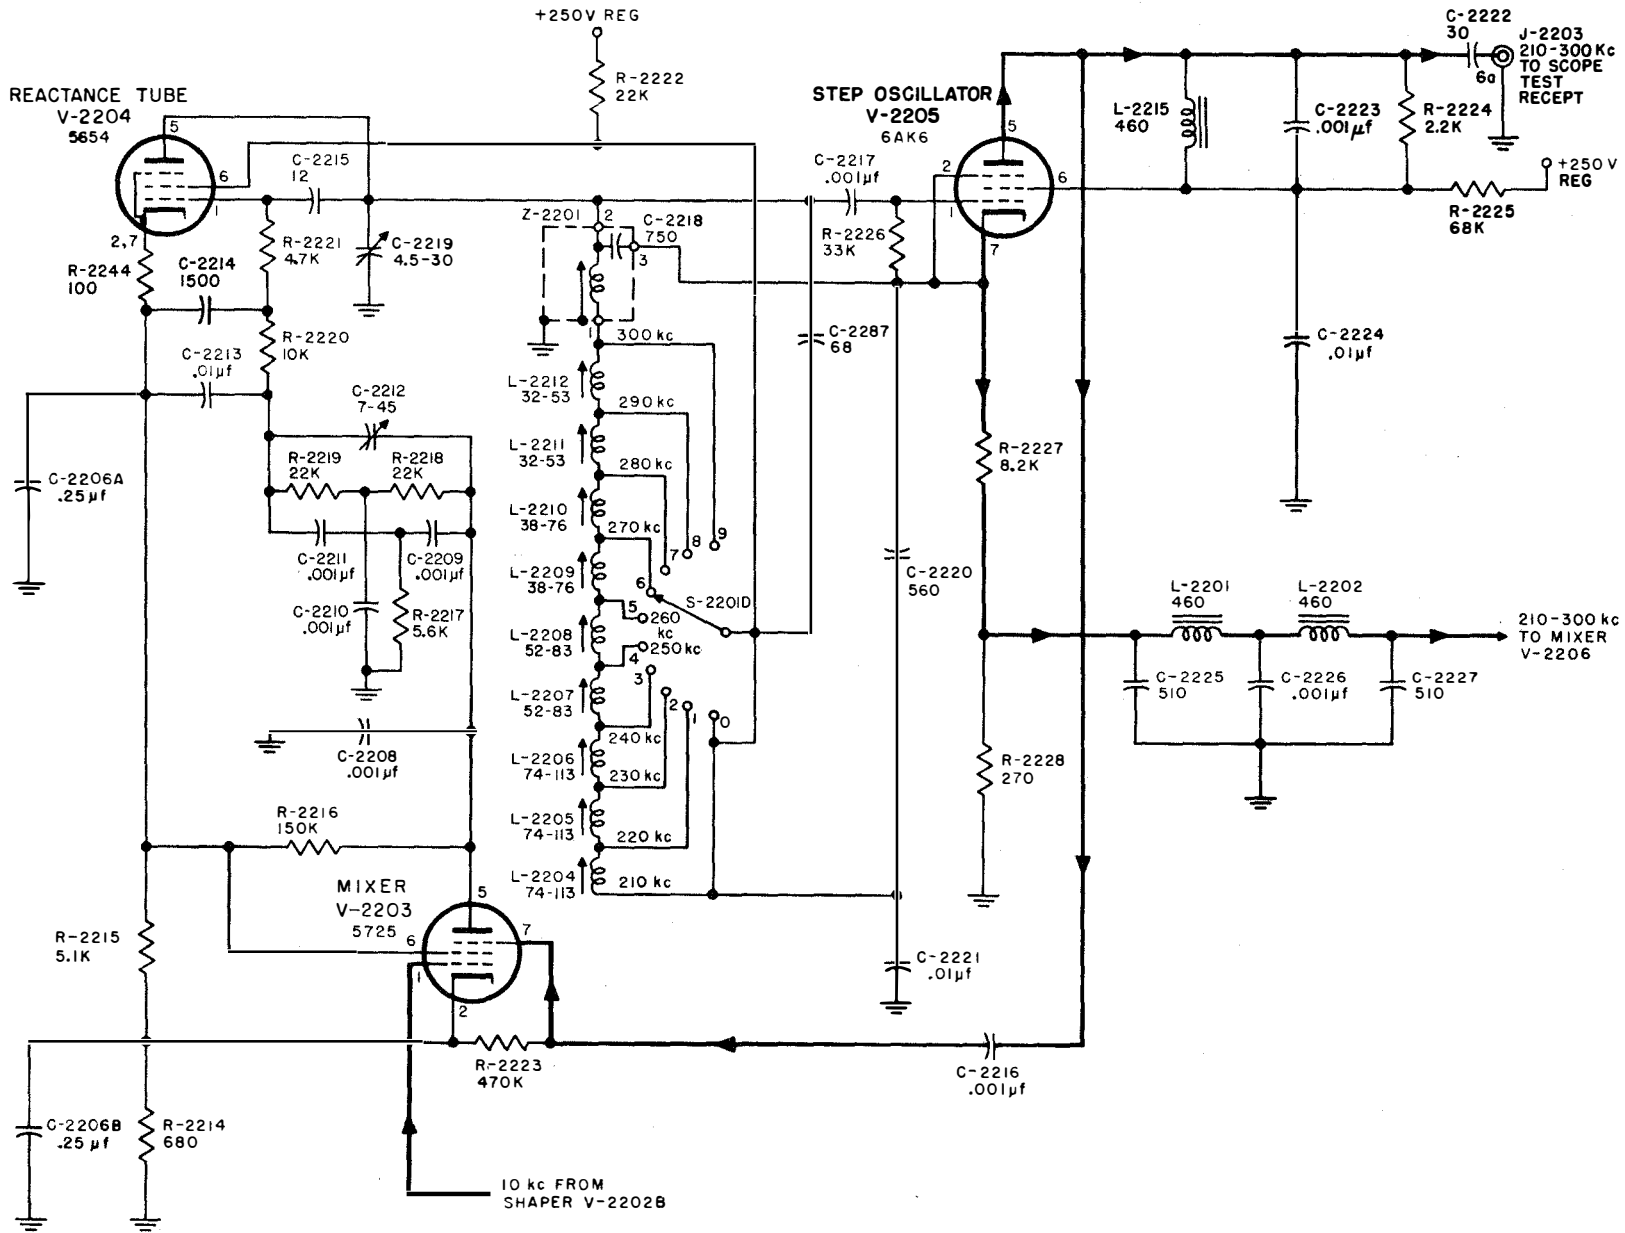

Figure 2-17. RFO Unit 6, Mixer V-2203, Step Oscillator V-2205, and Reactance Tube V-2204, Simplified Schematic
(3) STEP OSCILLATOR V-2205, MIXER V-2203 AND REACTANCE TUBE V-2204.—Step oscillator V-2205 generates frequencies in the range of 210 to 300 kc, in steps of 10 kc (figure 2-17). The oscillator is locked in to the synchronized 10-kc blocking oscillator, V-2202A, by means of mixer V-2203, a filter network, and reactance tube V-2204. The reactance tube corrects the oscillator if it drifts from the frequency to which it was tuned.
(a) The 10-kc step oscillator is a modified Colpitts oscillator (figure 2-17). The tank circuit consists of Z-2201, C-2220, C-2287, and one or more of the inductors, L-2204 to L-2212, inclusive, selected according to the final output frequency desired for unit 6. Inductors L-2204 through L-2212 are wired to contacts of section D of the 10-kc decade step switch S-2201, which is, in turn, controlled by the 10 KC control knob (D), one of the frequency control knobs. When S-2201 (10 KC) is in position 0, all the inductors, L-2204 through L-2212, are included in the tank circuit, and the lowest oscillator frequency, 210 kc, is obtained. When S-2201 is in position 1, L-2204 is shorted. This reduces the inductance in the tank circuit and increases the oscillator frequency to 220 kc. When switch S-2201 is in position 2, both L-2204 and L-2205 are shorted, reducing the inductance in the tank circuit still further and consequently increasing the oscillator frequency to 230 kc. Thus the oscillator frequency may be increased in steps of 10 kc until